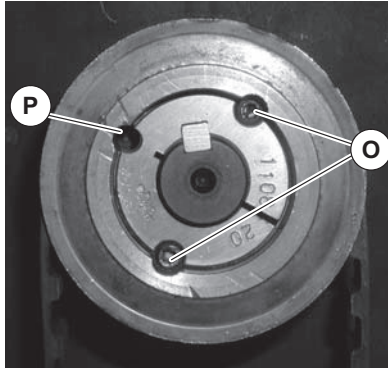

Figure 15
- b. Loosen taper set screws (Figure 15, item O) on the driven pulley. Remove one set screw and insert in open hole (P). Tighten until pulley slides off drive shaft.